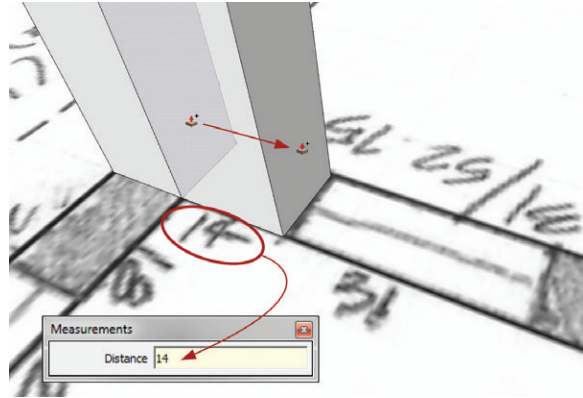
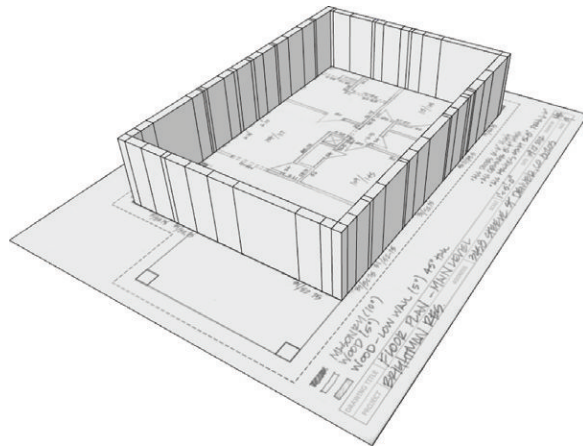

Figure 17.27 Extrude the plan horizontally using the Push/Pull tool. Read the dimensions of each section off of the field notes drawing.
Figure 17.28 Continue extruding the plan horizontally around the entire house and complete all the exterior walls.
3. Using the Push/Pull tool, extrude the plan horizontally (Figure 17.27, Figure 17.28). As you are push/pulling, tap the Ctrl key (Option key on Mac) to toggle the Create New Starting Face command. This leaves a copy of the starting face and edges behind